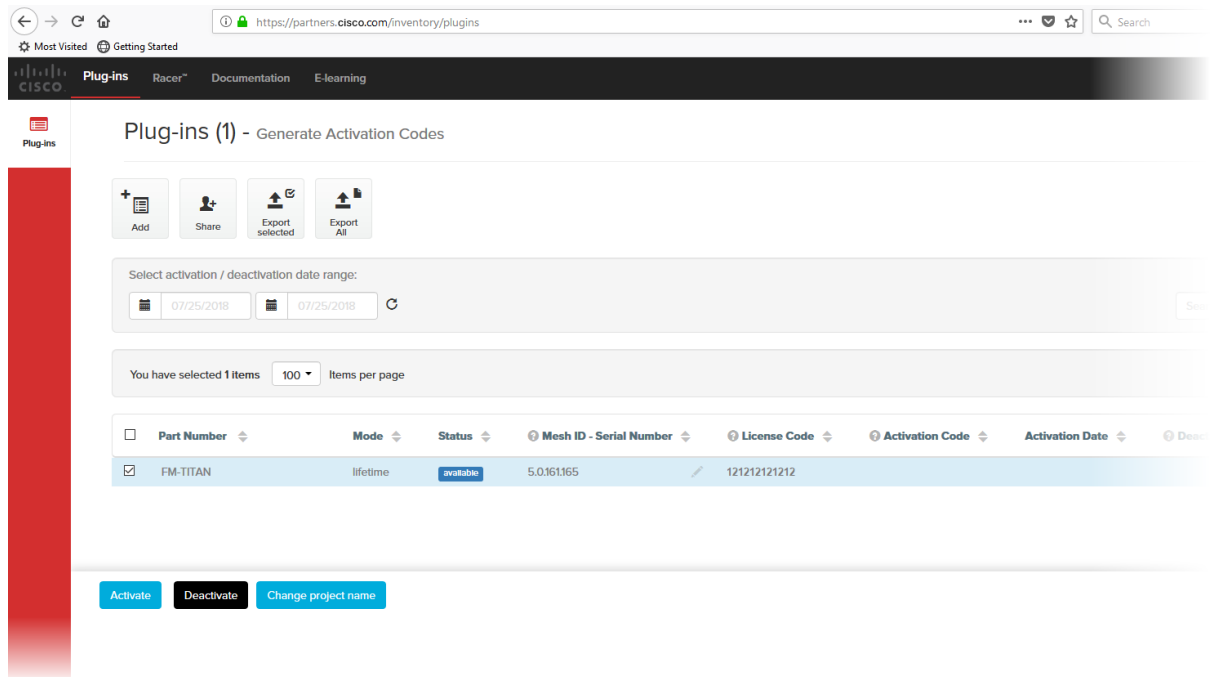

Figure 62. Partner Portal Plug-ins page (License code plug-in)
- When you purchase a generic 16-digit *License code*, the License code and corresponding plug-in will be listed on the Plug-ins page (Figure 62 \(page 117\)).